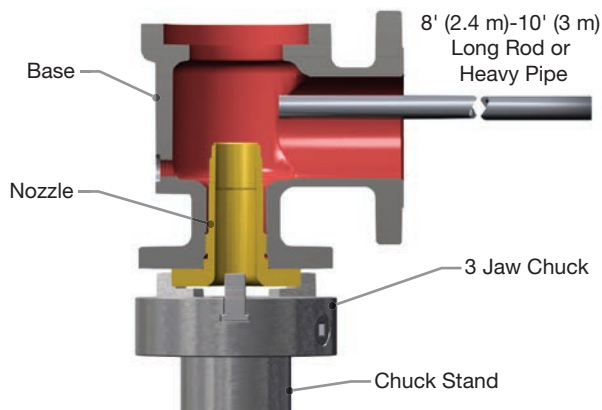

Figure 19: Loosening the Nozzle from the Base
- 18. Using a three- or four-jaw chuck welded vertically to a stand bolted to a concrete floor, clamp the nozzle (2) into the chuck and break the body loose with a heavy rod or pipe (see Figure 19).
seat is wider than the nozzle seat; thus, the control of seat width is the nozzle seat (see Figure 19).